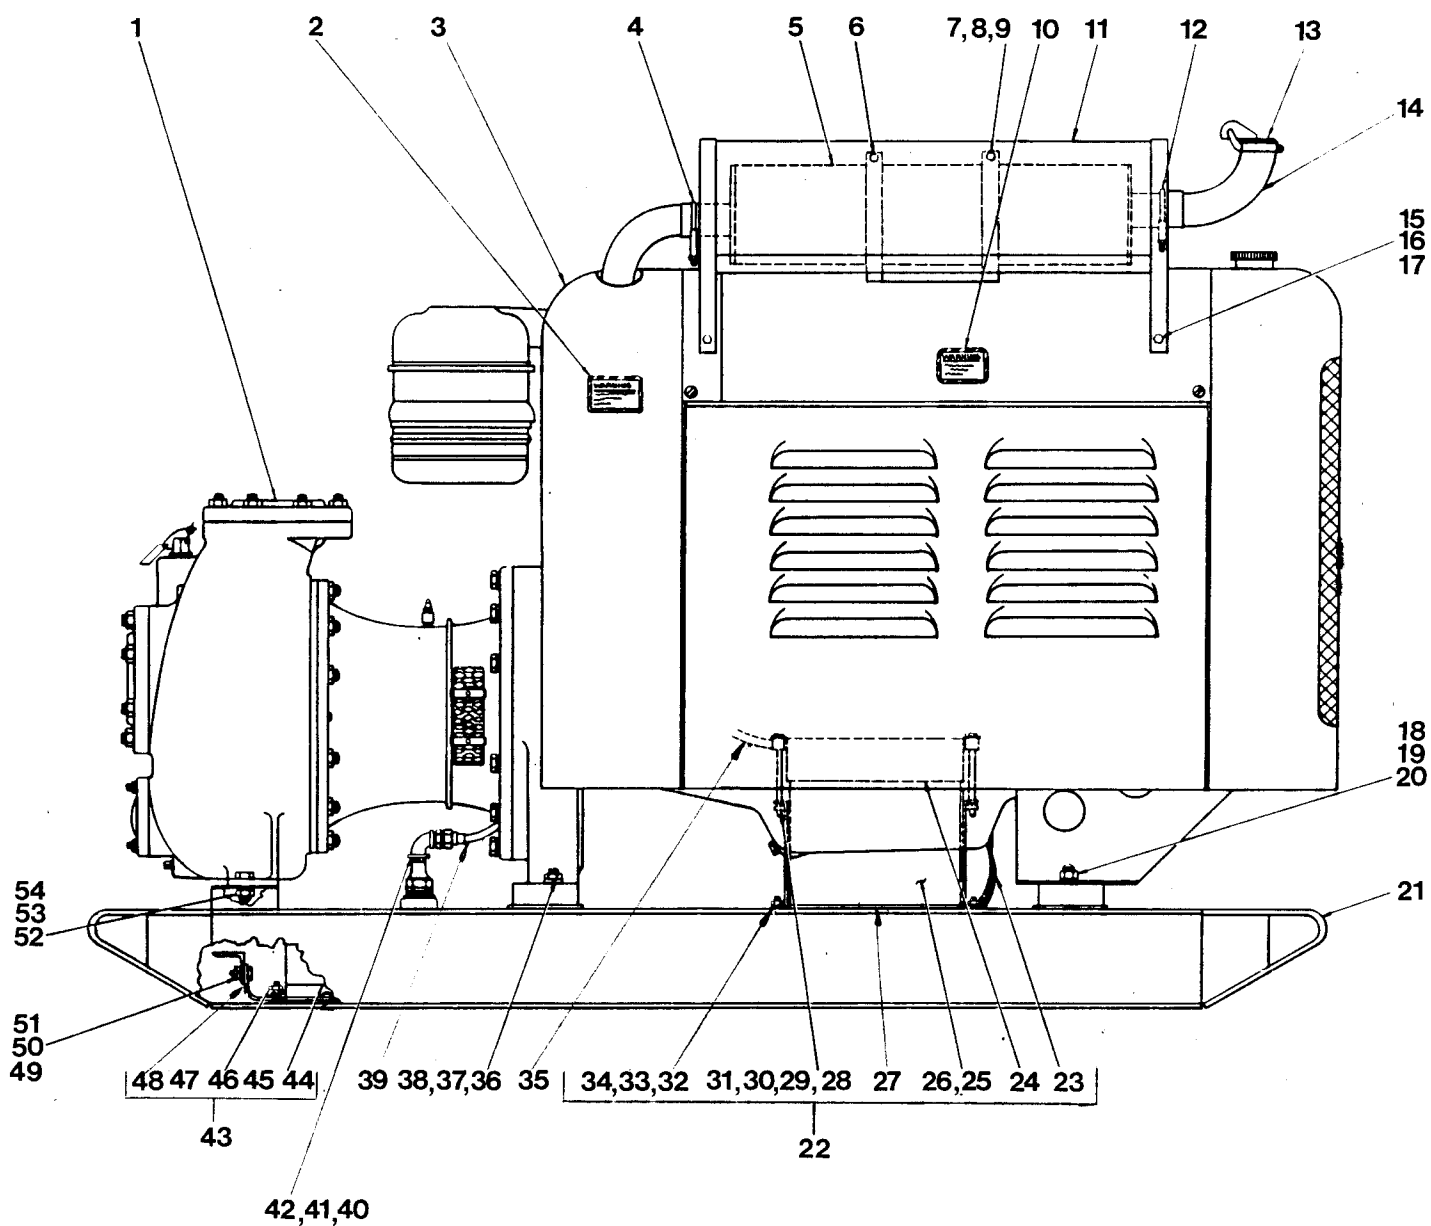

Figure 1. Pump Model 04B3-F300
This pump requires little service due to its rugged, minimum-maintenance design. However, if it becomes necessary to inspect or replace the wearing parts, follow these instructions, which are keyed to the sectional views (see Figures 1 and 2) and the accompanying parts lists.
Remove the suction and discharge lines. Remove the hardware (52, 53 and 54, Figure 1) securing the casing to the base. Remove the nuts (30), and use a suitable hoist and sling to separate the pump casing and gasket (32) from the seal plate (31) and intermediate (27).